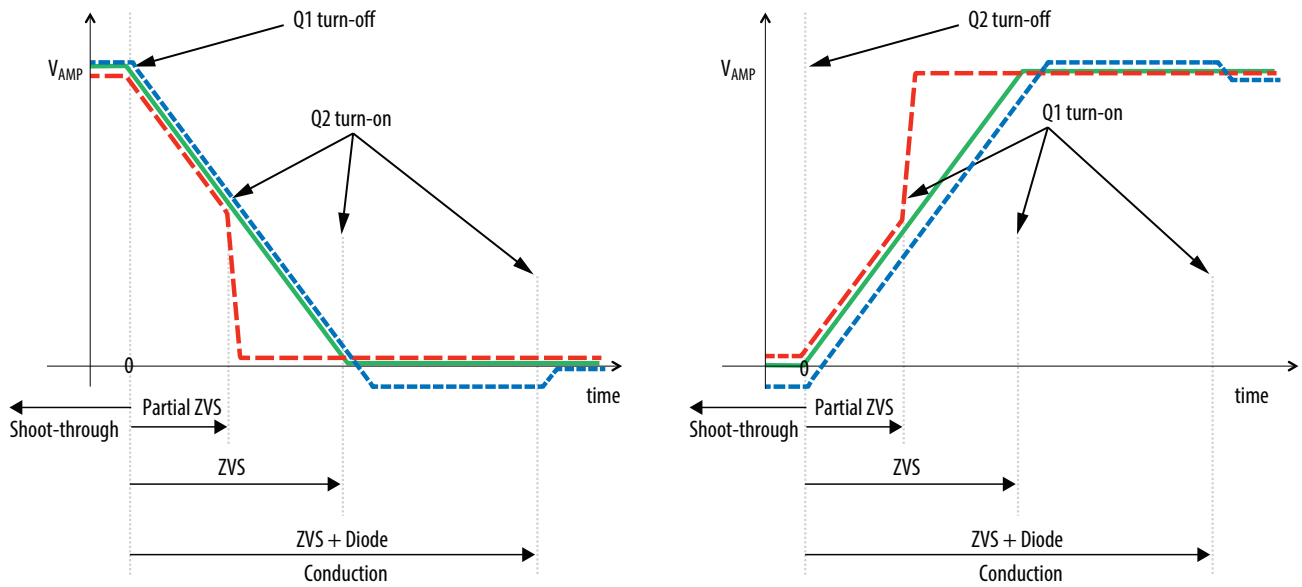

Figure 12: ZVS timing diagrams
Setting the correct time to establish ZVS transitions is critical to achieving high efficiency with the EPC9511 amplifier when operating at high frequency. This can be done by selecting the values for R71 and R72 or P71 and P72 respectively. This procedure is best performed using a potentiometer installed at the appropriate locations (P71 and P72) that is used to determine the fixed resistor values. The timing MUST initially be set WITHOUT the source coil connected to the amplifier. The timing diagrams are given in figure 12 and should be referenced when following this procedure. Only perform these steps if changes have been made to the board as it is shipped preset. The steps are:
6. While observing the oscilloscope, adjust the applicable potentiometers to achieve the green waveform of figure 12.